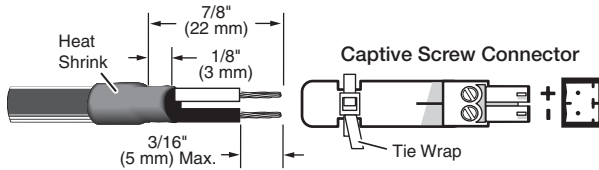

Figure 3. Wiring the Power Connector
- If necessary, wire a 2-pole captive screw connector (provided) to your power supply as shown in figure 3.